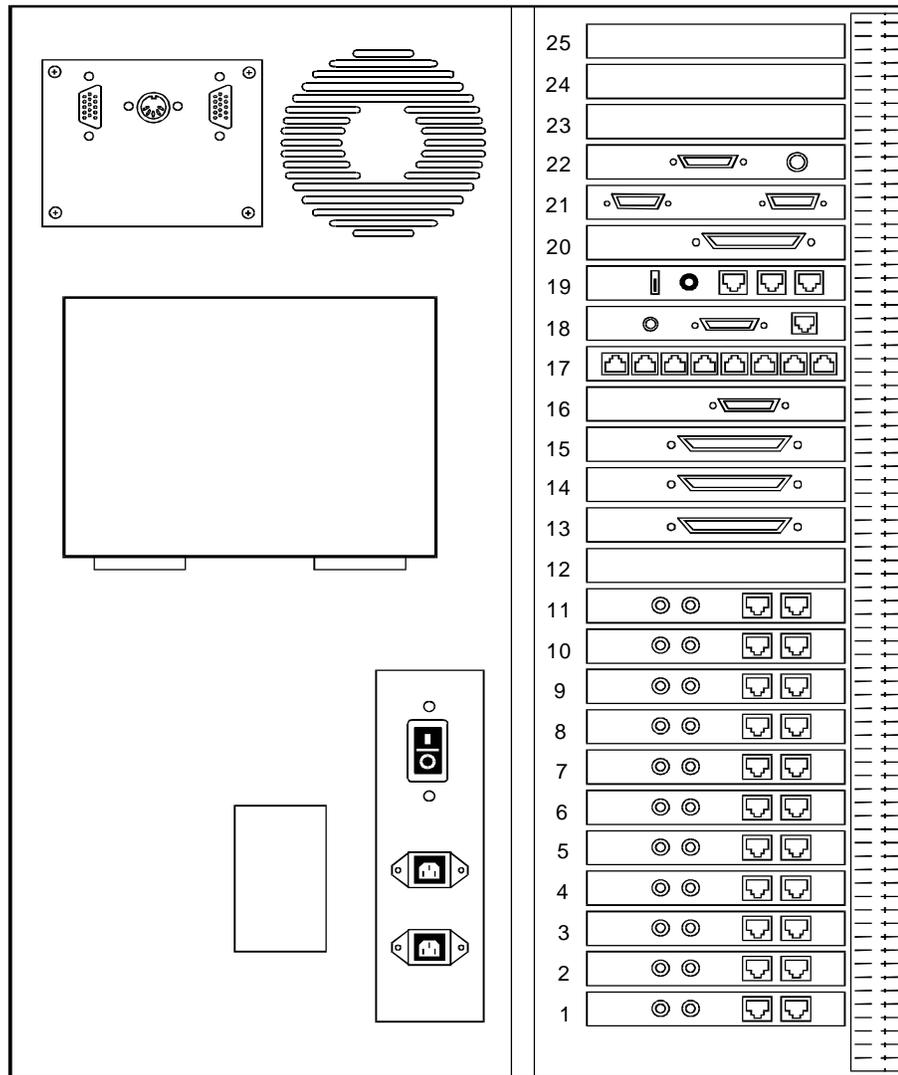

Figure 9-1. Back View of the MAP/100
2. If the system is off, turn it on using the power switch on the back of the MAP/100 (Figure 9-1).